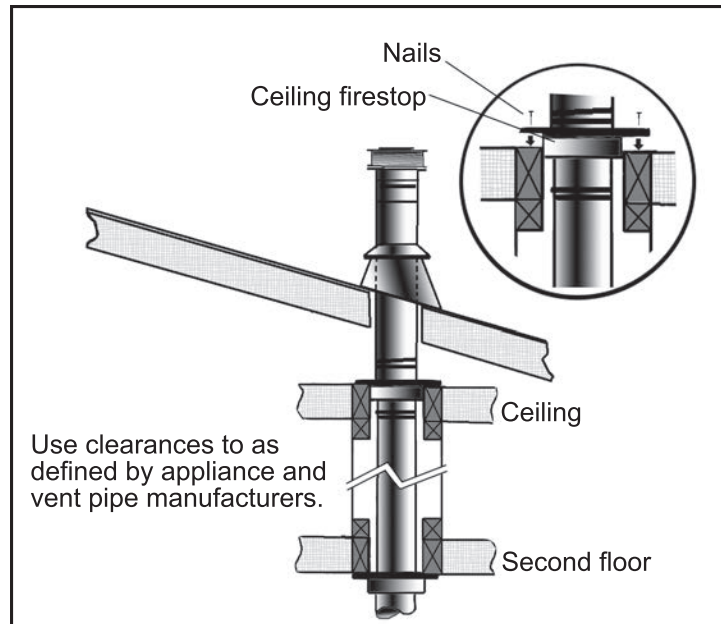

**Figure 40: Use of Wall Straps.**
- (1) If an offset is necessary in the attic to avoid obstructions, it is important to support the vent pipe every 3 feet (914 mm), to avoid excessive stress on the elbows, and possible separation. Wall straps are available for this purpose (see Figure 40).
- (2) When ever possible, use 45° degree elbows instead of 90° degree elbows. The 45° degree elbow offers less restriction to the flow of flue gases and intake air.